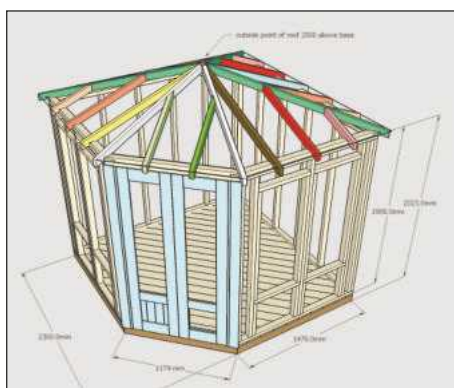

Fig.1 The summerhouse framework
I started by creating a 3D design in SketchUp, using separate layers for base, floor, walls, door, roof, cladding, etc. If you don't have a computer or use SketchUp, the SketchUp Viewer app can be purchased fairly cheaply for Android or iOS. Fig.1 shows the framework and some key dimensions, all of which are taken from SketchUp.
- **How to copy/rotate the rafters** – in Fig.1, rafters shown the same colour are identical.